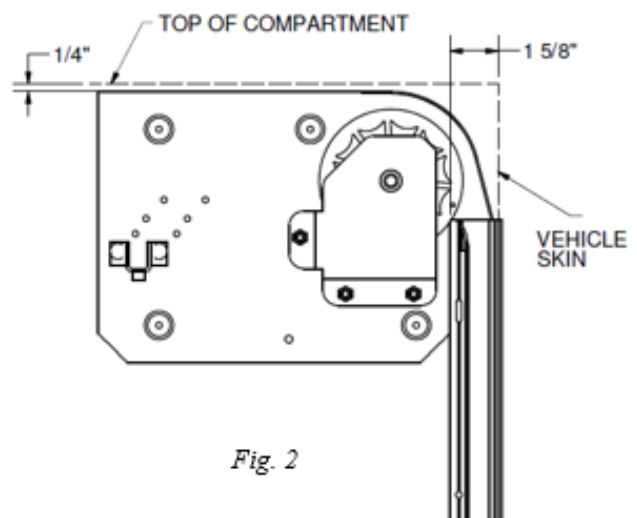

Fig. 2
- Looking into the compartment, place the pennant plate with the right-hand pennant plate label in the top right of the compartment as shown in Fig. 2. Make sure it is 1/4" from the top of the compartment and 1-5/8" from the vehicle skin.